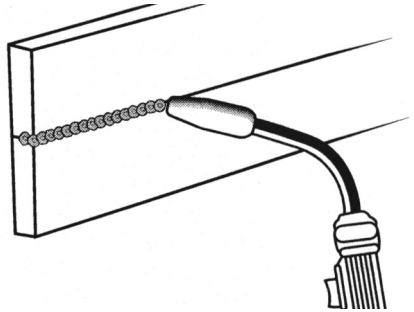

Figure 15. Horizontal Position
2. The **HORIZONTAL POSITION** (Figure 15) is next in difficulty level. It is performed very much the same as the flat weld except that angle B (see **HOLDING THE TORCH** - p.15) is such that the wire, and therefore the arc force, is directed more toward the metal above the weld joint. This is to help prevent the weld puddle from running downward while still allowing slow enough travel speed to achieve good penetration. A good starting point for angle B is about 30 degrees **DOWN** from being perpendicular to the work piece.